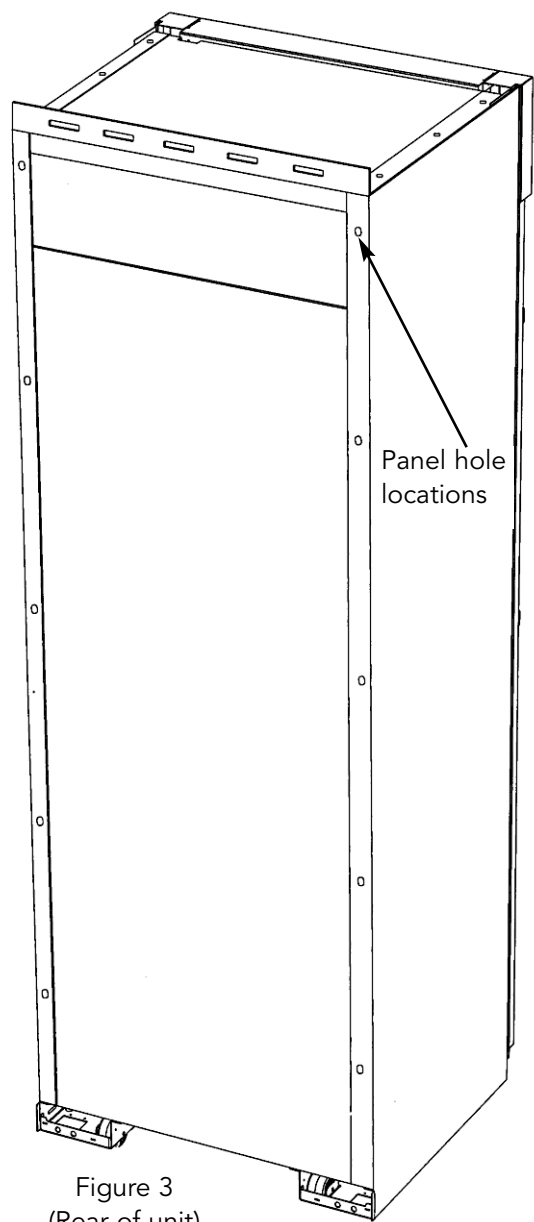
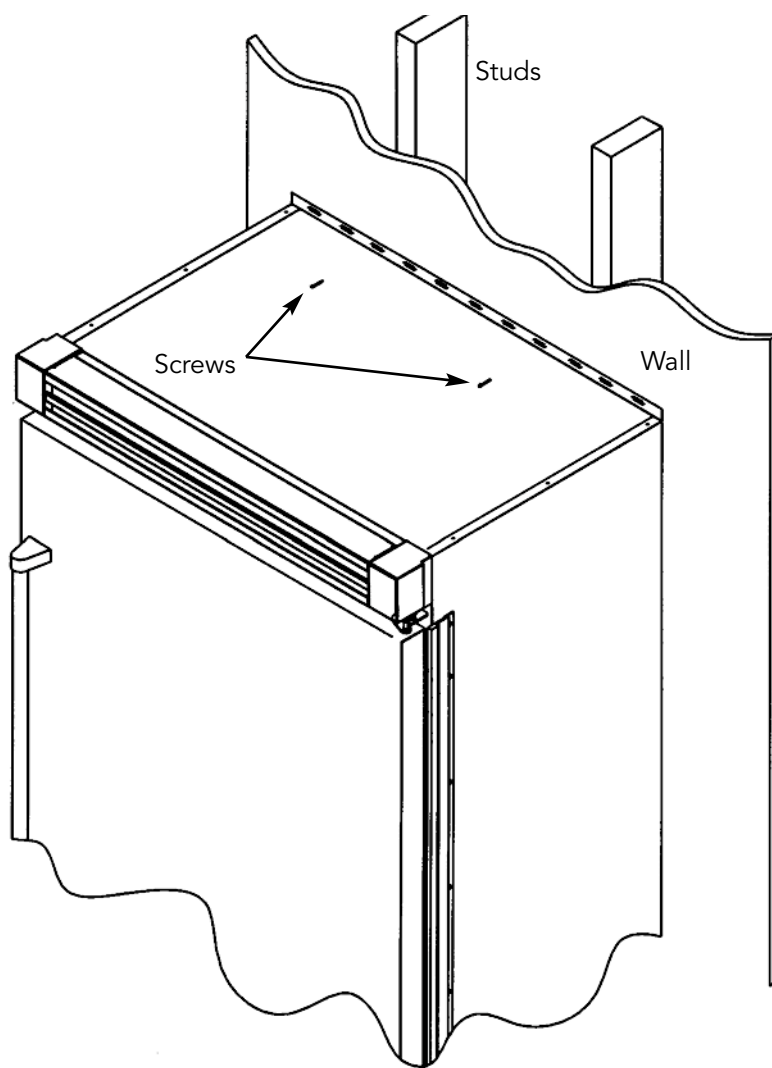

Figure 3
Figure 4
7. Using the panel hole locations as a template, drill ten (10) holes on the cabinet rear with a 9/64" (.36 cm) diameter drill bit. (figure 3)
8. Attach the panel to the rear of the unit using the ten (10) black #8 sheet metal screws provided.
11. Using the top panel rear flange as an attachment device, locate holes in the flange that are aligned with a minimum of two wall studs. (figure 4)